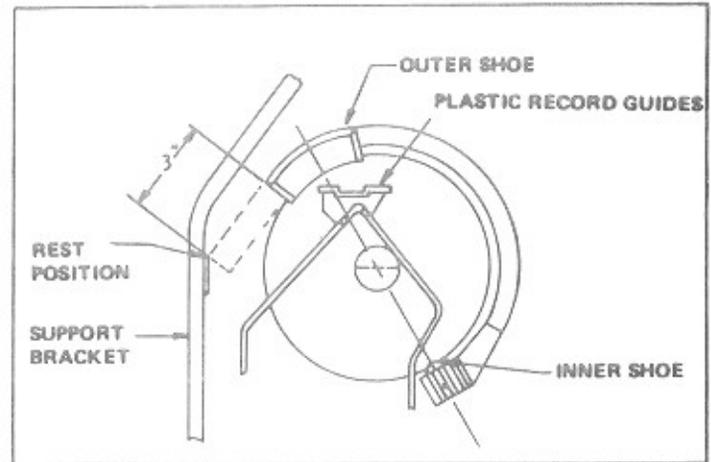

Figure 3-15. Magazine and Transfer Arm Position
2. Using a 5/32-inch Allen wrench in the end of transfer motor shaft, turn motor shaft clockwise until the gripper bow lifts the record out of the magazine, and the outer shoe is approximately 3 inches from its rest position on the back support (See Figure 3-15).